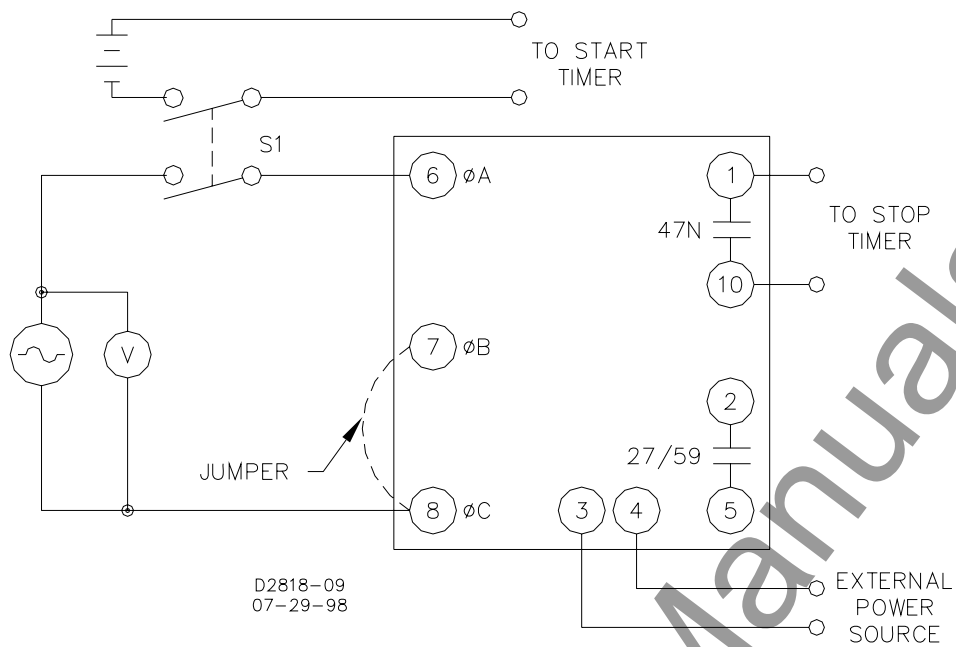

Figure 5-1. Test Circuit Diagram (47N)
2. As shown in Figure 5-1, short-circuit or jumper case terminals 7 (B-phase) and 8 (C-phase).
1. Connect the test setup as indicated in Figure 5-1.